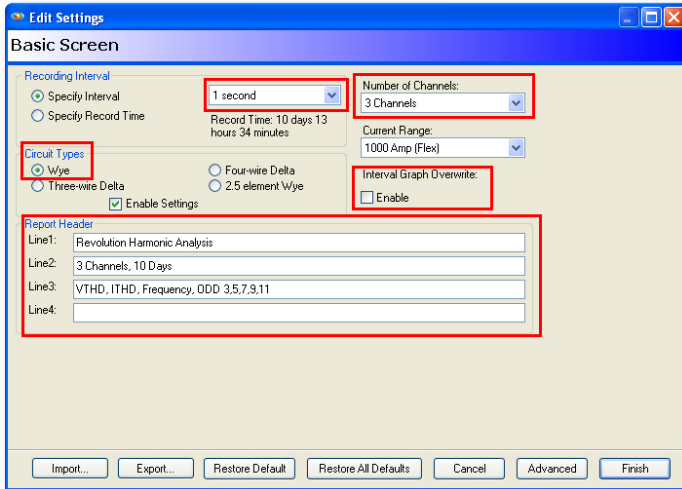

Figure 5. Basic Screen
In the Basic Screen, Figure 5, the following settings will be changed: Circuit Type (Wye), Interval (1 Sec), Number of Channels (3), Interval Graph Overwrite (Disabled), and Report Header to describe the specific recording application.